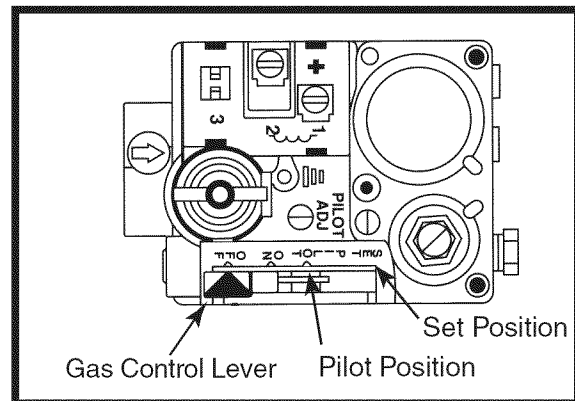

Figure 30. Standing Pilot Valve
4. Push in and move the gas control lever to the **OFF** position (Figure 30). **DO NOT FORCE!**
The pilot flame can be adjusted by turning the pilot adjustment screw, located on top of the gas valve (See Figure 30, page 20). The pilot flame height should be between 3/4" and 1." The flame tip should be visible just above the pilot bracket when viewed through the observation door. The same pilot orifice is used with both natural and LP gas.